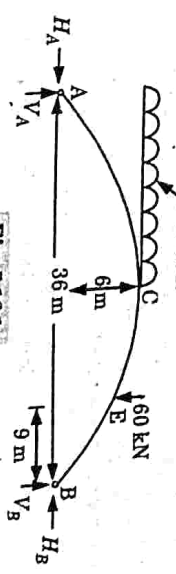

Fig. 5.16.1.
**Que 5.16.** A three hinged parabolic arch is shown in Fig. 5.16.1. Determine the normal thrust, radial shear and bending moment at quarter span and draw BMD.